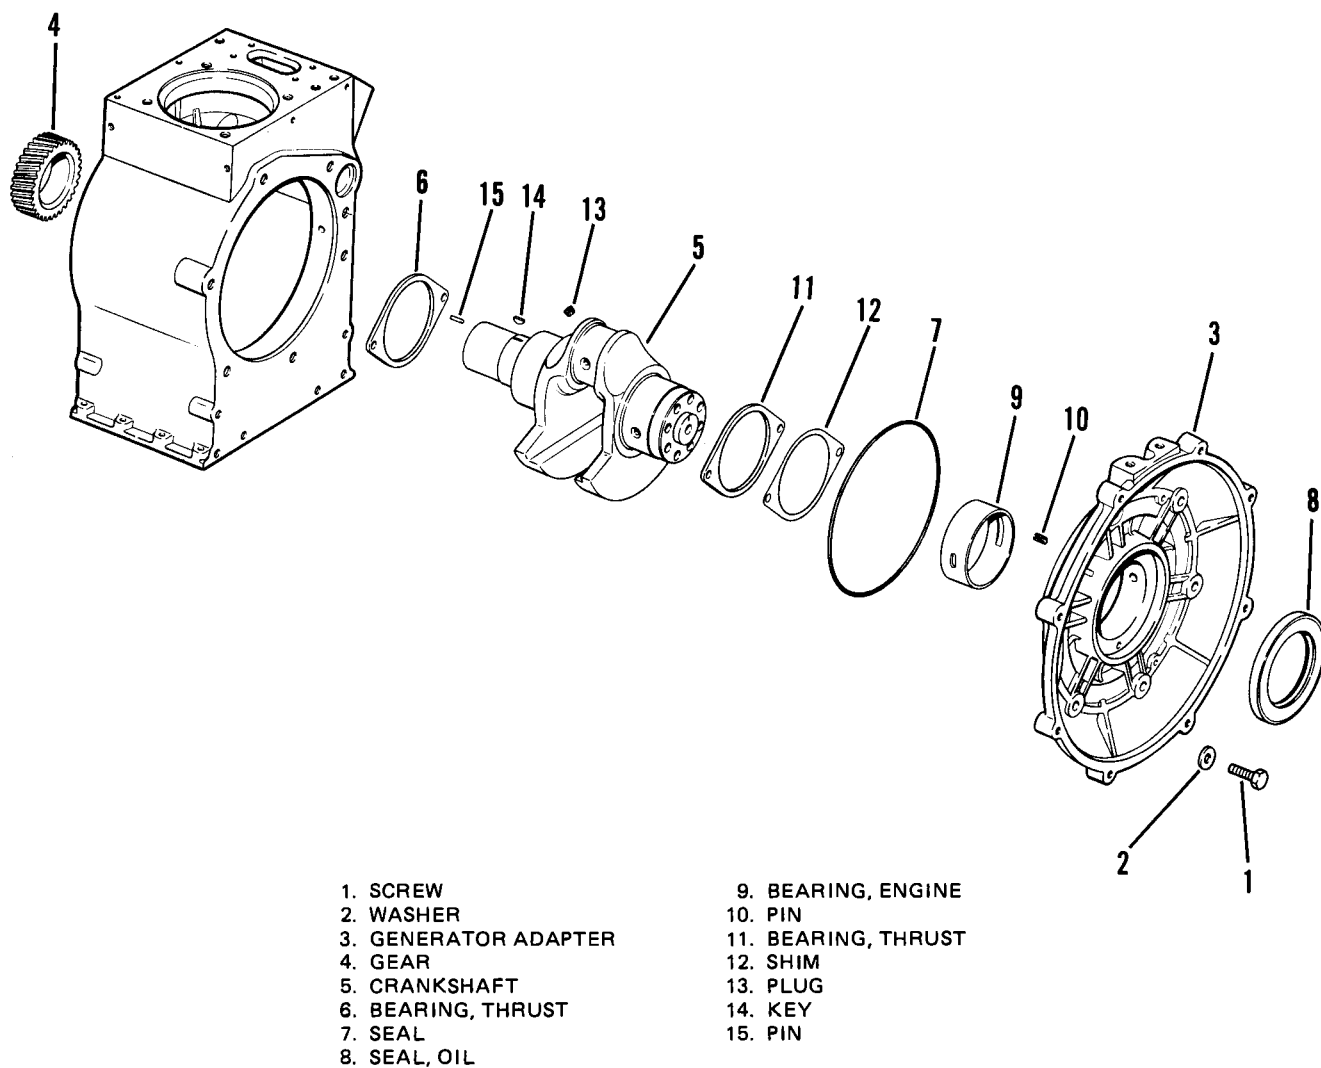

Figure 7-32. Crankshaft and Generator Adapter.
- (4) Using crankshaft gear puller (refer to Table 2-1), remove crankshaft drive gear (4).
- (5) Remove screws (1, Figure 7-32) and washers (2) that secure generator adapter (3) to crankcase.
- (6) Remove crankshaft (5).